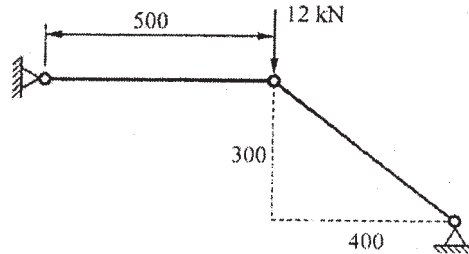

Fig. 1
- Q3) a) For the two bar truss as shown in Fig.1, determine the displacements and stresses in the bars. [12]